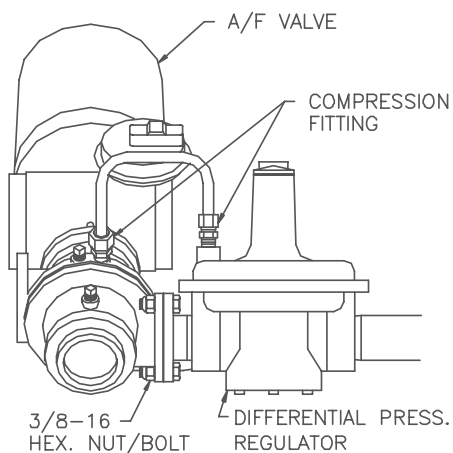

Figure 7.7
16. Using an 11/16" wrench, loosen the compression fittings on the feedback tube between the air/fuel valve and the differential pressure regulator. Remove the feedback tube (See Fig. 7.7).
17. Using two 9/16" wrenches remove the two 3/8-16 hex nuts and bolts holding the air/fuel valve to the differential pressure regulator (See Fig. 7.7).